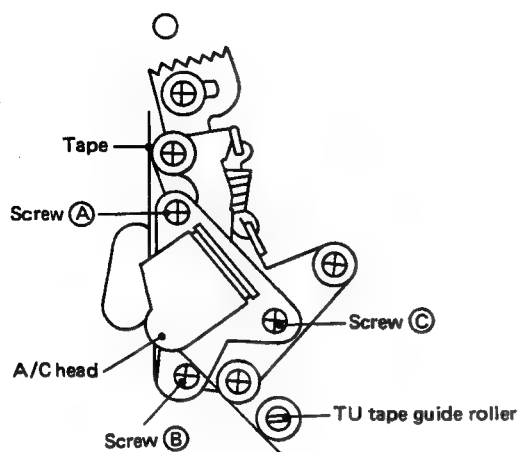

Fig. 2-51 A/C head height
6. When the tape is running normally, adjust screws A, B and C (Fig. 2-51) by small and equal amounts in order to obtain the maximum levels.
3. Adjust screws A and B (Fig. 2-51) for maximum levels and to eliminate phase difference between the channels.